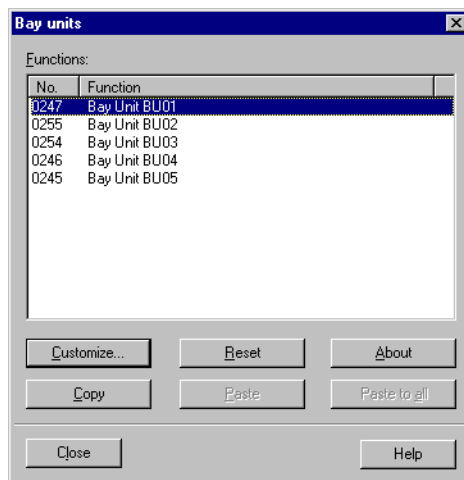

Figure 6-28 Bay units window – Example
- ☐ Double-click **Bay units** in the function selection. The Bay units window opens (Figure 6-28, page 237).